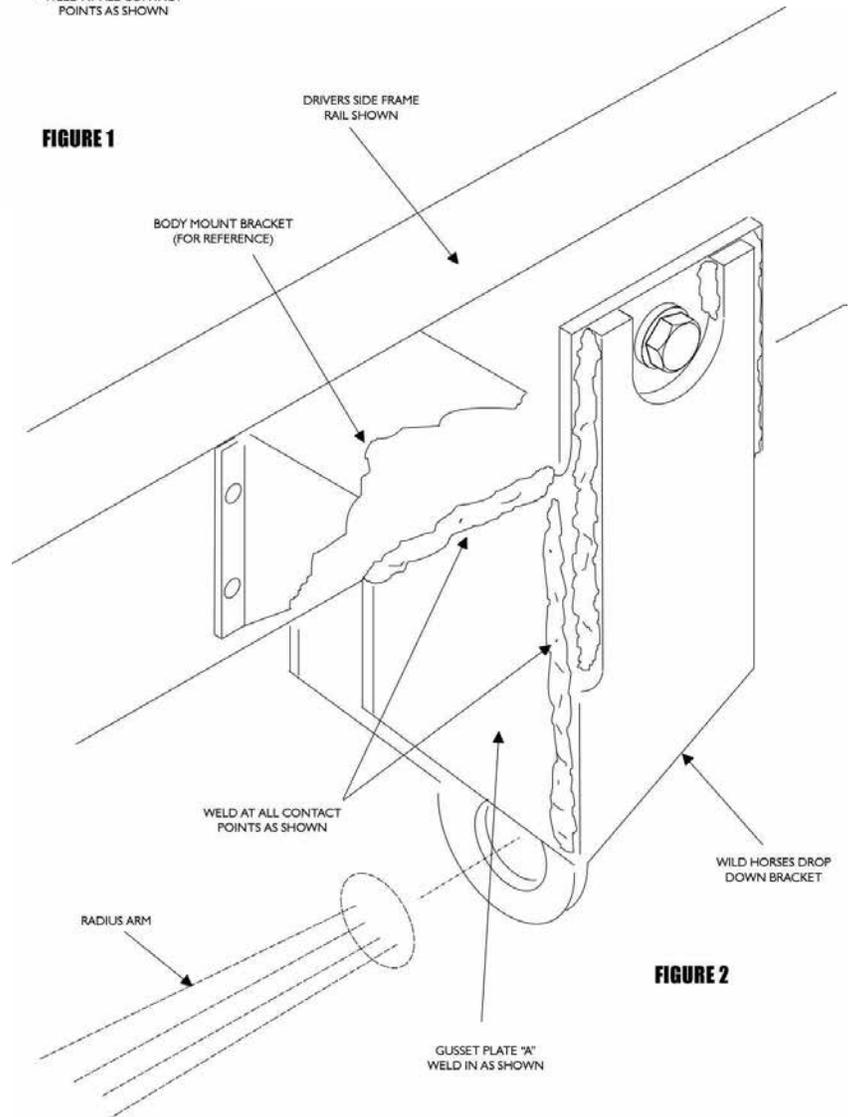

FIGURE 2
9. Position the gusset plate "A" and weld in per Figure 2.